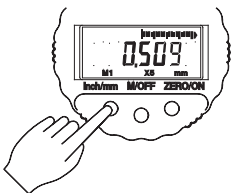

Figure 4 - Changing Analog Magnification
- 2) Press and release **inch/mm** to select the desired Analog Magnification signified by the X1, X5, X10, X50, or no icon (blank) - no scale displayed (Figure 4).